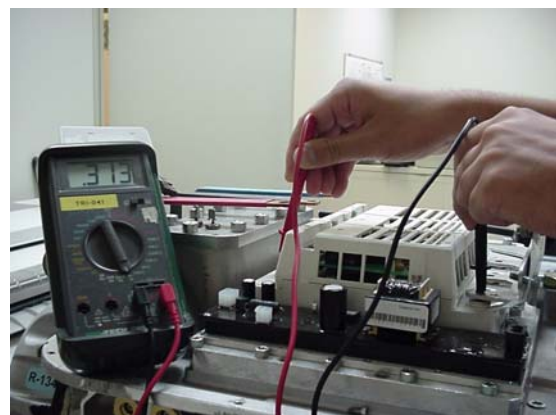

Figure 4-44 IGBT Inverter Verification
5. Place one meter probe on the (+) DC connection point, and place the other meter probe on the AC connection point located directly across, as shown in Figure 4-44. Record the measurement.